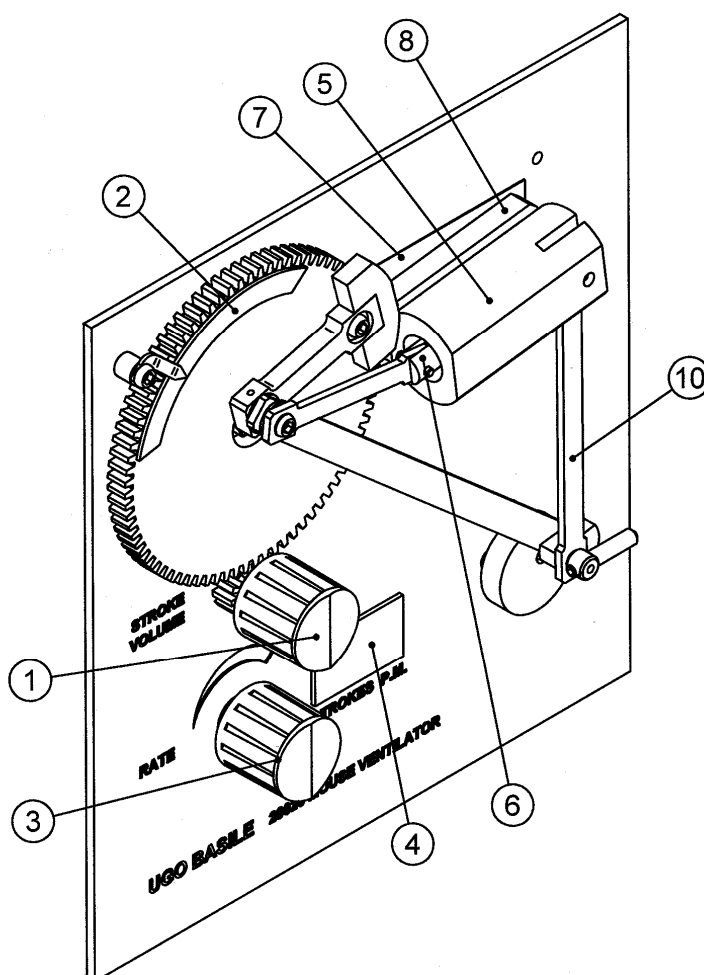

Figure 1 "Basic Layout"
- a) The **tidal volume**, in the range 0.1 - 1 ml (or 0.05 - 0.5 ml when the smaller cylinder/piston is installed) can be selected via the knob (1) either while the pump is running or at a standstill. The stroke volume scale (2) is ample, provided with precise engraved marks. See Figure 1 "Basic Layout".
- b) The **rate**, selected by the knob (3) is indicated by a 3-digit solid state display (4), in the range 60-300 strokes per minute.
A D.C. geared motor which embodies a miniature tachometer to provide a precise speed control is coupled to an interchangeable cylinder/piston assembly, via a unique variable stroke linkage (see the colour picture, Figure 1 “Basic Layout” and Figure 6 “Lubrication”) whose features are listed below:-
The stroke volume is adjusted by the knob (1) on the front panel, see Figure 1 “Basic Layout”, and is indicated on the scale (2).